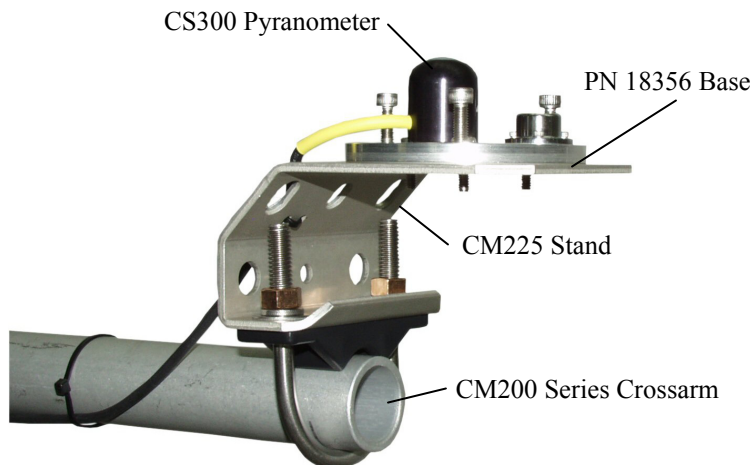

FIGURE 3-1. CM225 Pyranometer Mounting Stand and CM202 Crossarm
To ensure accurate measurements, the CS300 should be mounted using PN 18356 base/leveling fixture, which incorporates a bubble level and three adjustment screws. The CS300 and base/leveling fixture are attached to a tripod or tower using one of three mounting configurations (see Figures 3-1 and 3-2).
- 1/2" open end wrench for CM225 or 015ARM (Figures 3-1, 3-2)